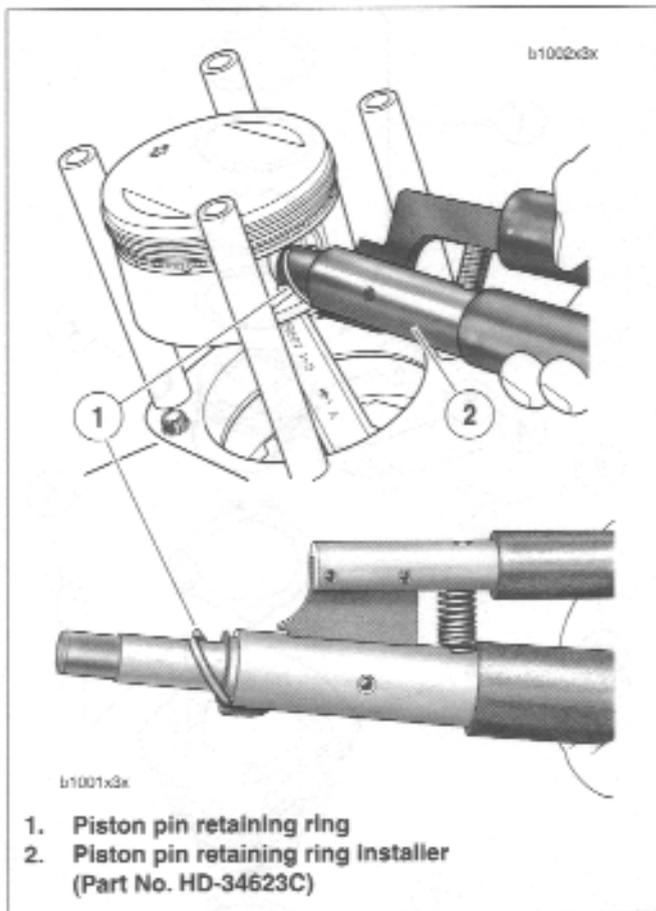

Figure 3-92. Removing Piston Pin Circlip
8. See Figure 3-92. Remove the piston pin circlip as follows: